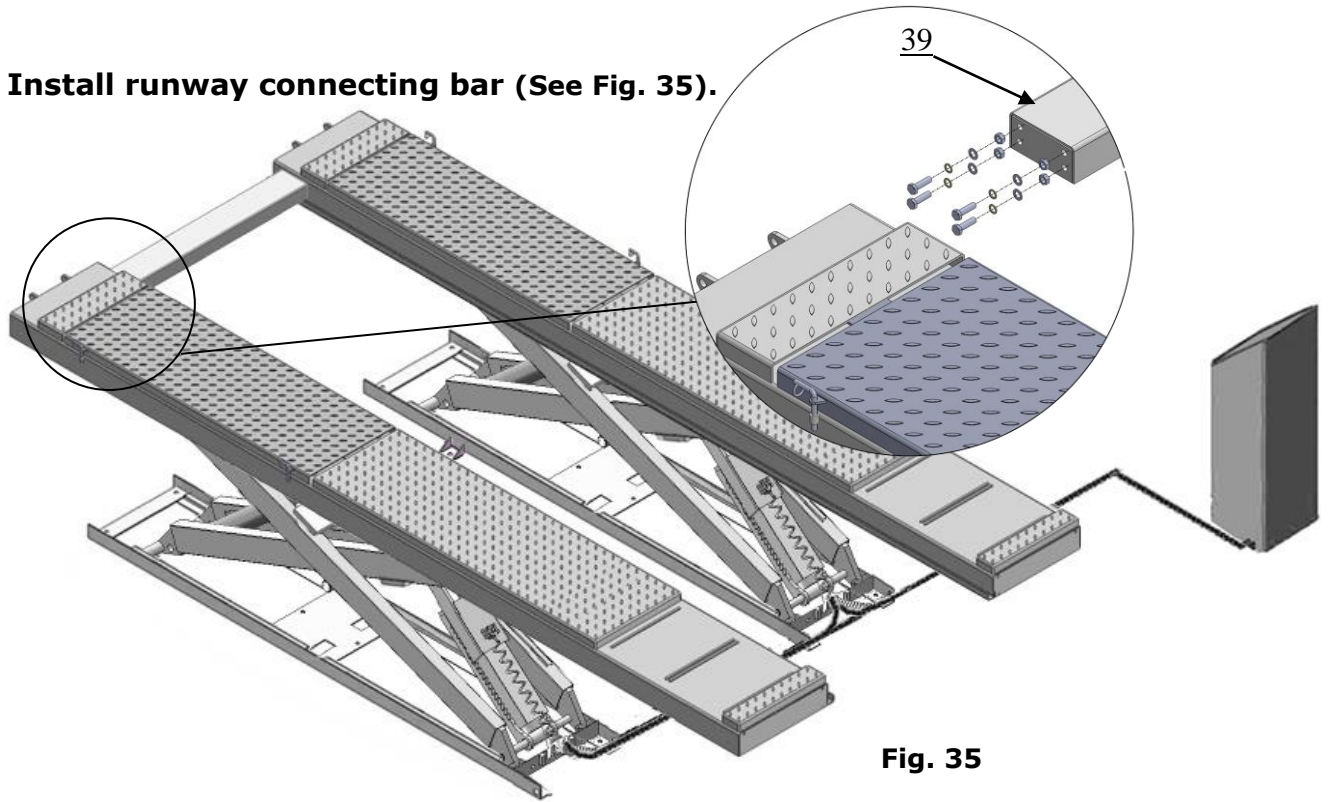

Fig. 35
F. Install runway connecting bar (See Fig. 35).